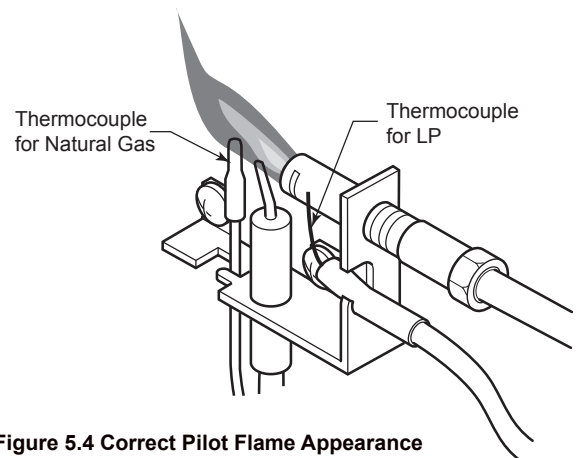

Figure 5.4 Correct Pilot Flame Appearance
- Inspect pilot flame pattern and strength. See Figure 5.4 and 5.5 for proper pilot flame pattern. Clean or replace orifice spud as necessary.